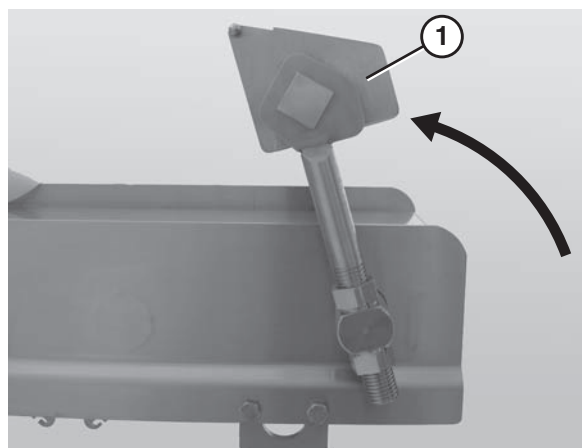

Figure 14
1. Place the idler tail (**Figure 14, item 1**) in the UP position.